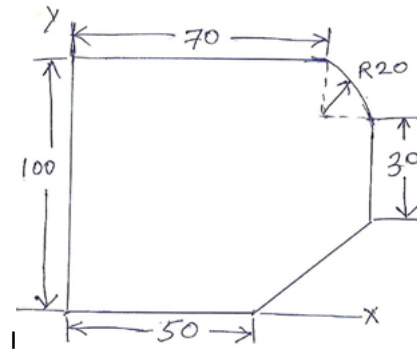

Figure 1
1. (a) Write complete APT program to machine the profile of the part drawing shown in Figure 1. Assume suitable machining data and cutting tool. All dimensions are in mm. [10M]